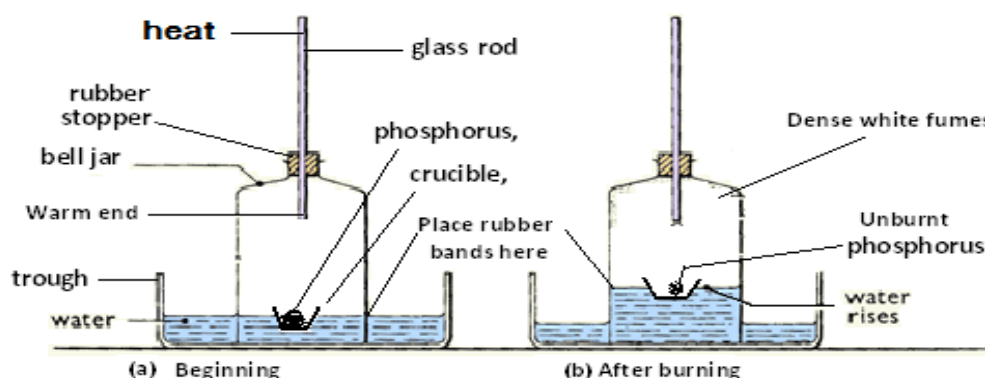

Figure 10: Bell-jar Experiment
4. Place a bell jar over the crucible, with its stopper removed as shown in figure 10.